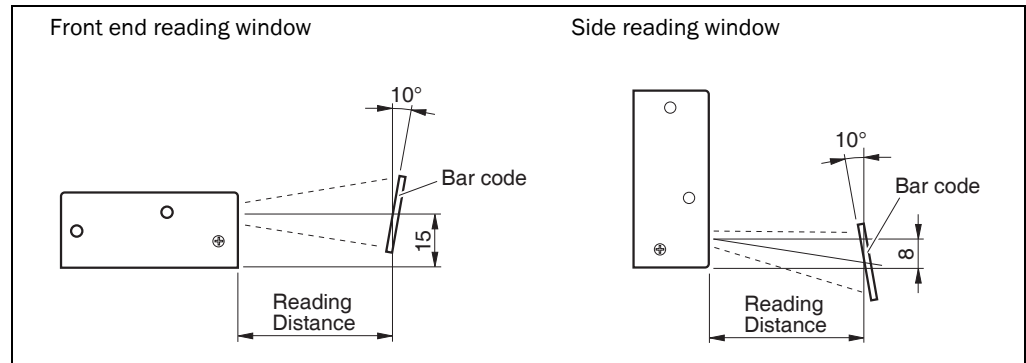
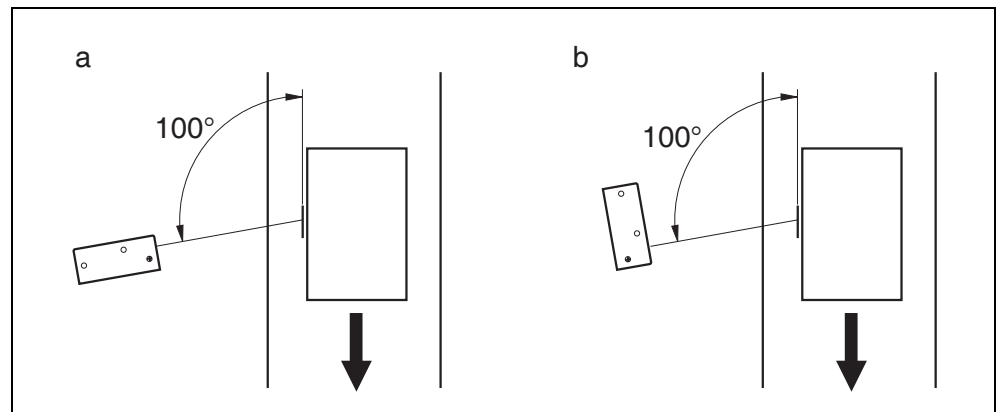

Fig. 4-5: Angle between the emitted light and the bar code (tilted to the perpendicular)
Fig. 4-6: Adjustment of the CLP100 in order to avoid reflections;
Important If the light of the scan line falls exactly vertically on the surface of the bar code, disturbing reflections can occur when the reflected light is received. In order to avoid this effect the CLP100 must be installed so that the emitted light is tilted relative to the perpendicular (see Fig. 4-5).
2. In order to avoid disturbing reflections align the CLP100 so that the emitted light impacts on the bar code at an angle of 100° (see Fig. 4-5, Page 20 and Fig. 4-6).